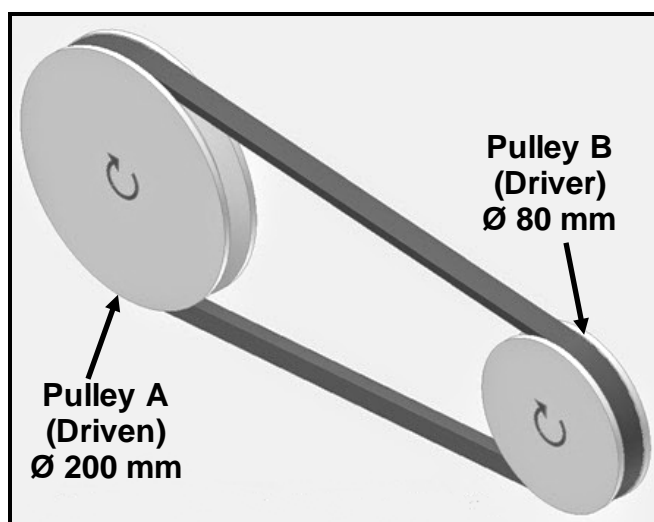

FIGURE 1.3
- 1.17 What will the rotation frequency of pulley **B** be if pulley **A** rotates at 2 000 r/min, as shown in FIGURE 1.3 below?